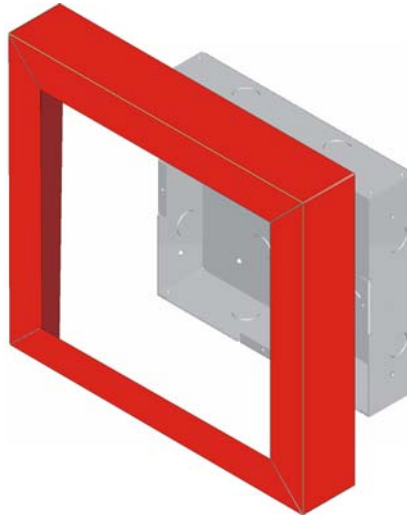

Figure 4.27 Installing Trim Ring
4. Place the trim ring over the back box as shown in Figure 4.27.